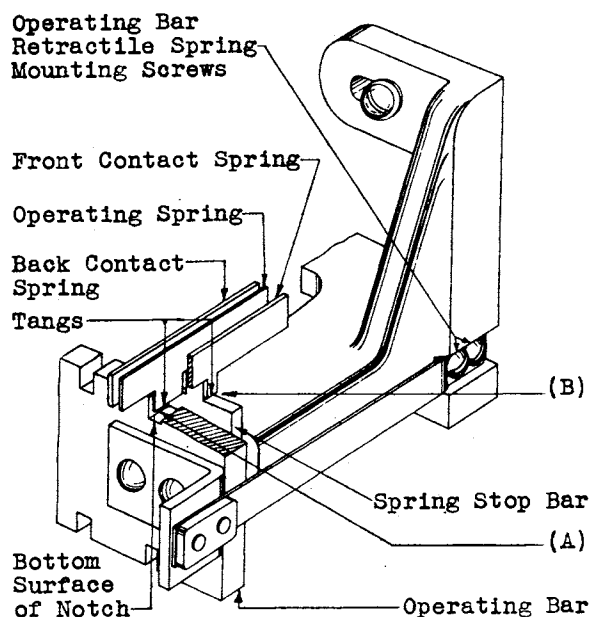

Fig. 8
(a) - Fig. 8 (A) - The operating spring tang shall engage with the notch in the operating bar min. $1/32$ " and shall clear the bottom of the notch. Gauge by eye.
(b) - Fig. 8 (B) - The contact spring tang shall engage with the notch in the spring stop bar min. $1/32$ " and shall clear the bottom of the notch. Gauge by eye.